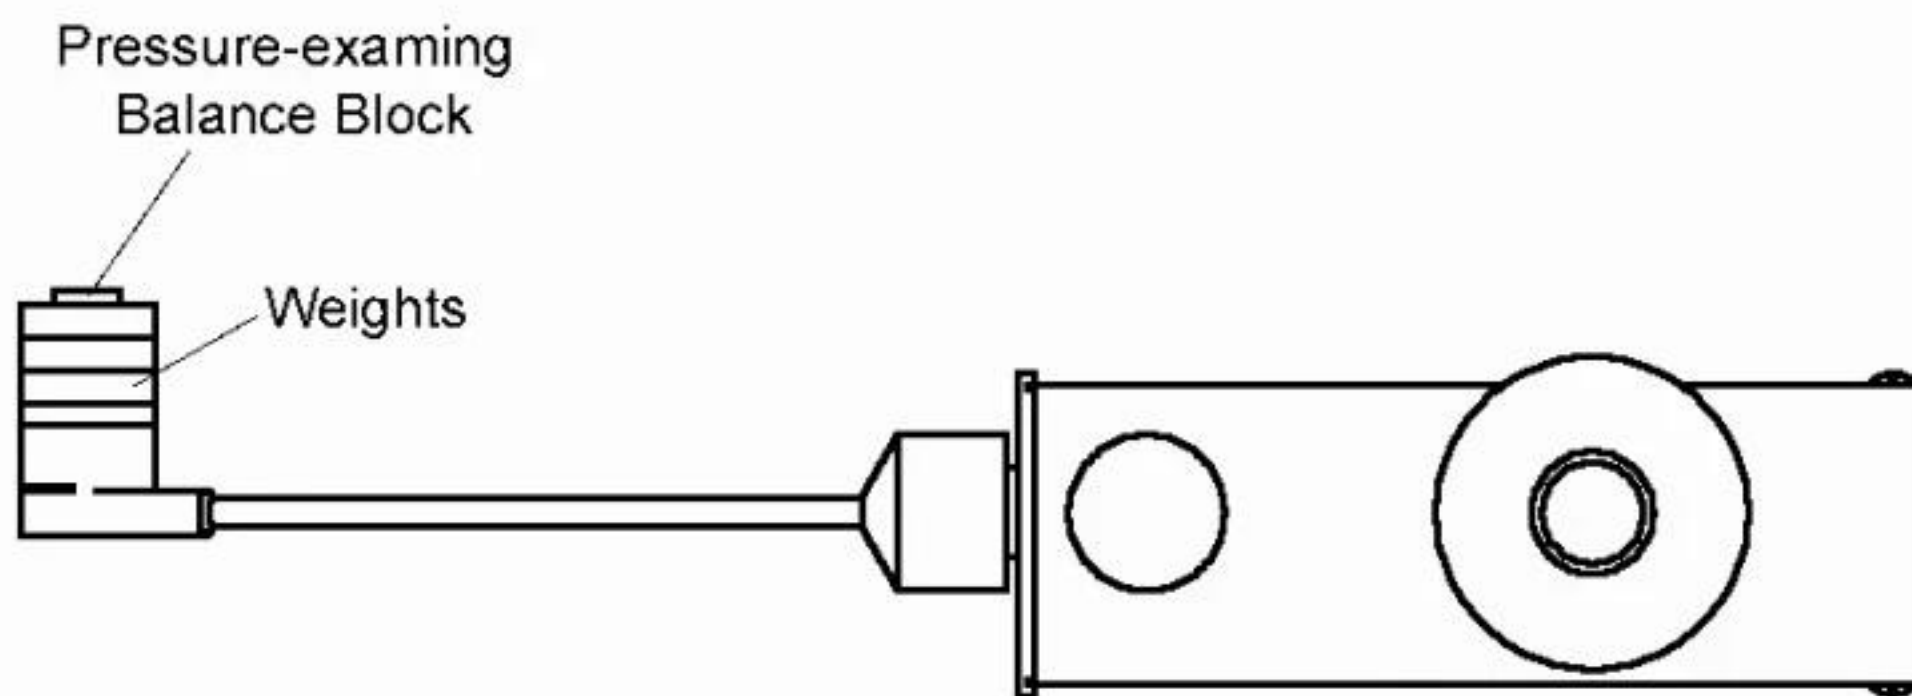

Fig. 13
1. Calibration of point '0'. Placed the main body of tonometer (removed the suspension arm part) in horizontal way (show as Fig. 13). Probe is put inside the cover ring. Turn reading turn drum to position of '0'. Check the balance of pressing arm of tonometer.